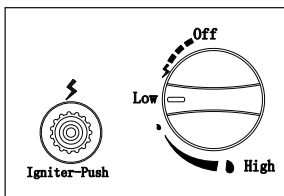

Figure 2
4. Press the control knob, turn counterclockwise to the "High" position, Continue to hold. press the control knob for 30 seconds. When the burner lights, release the control knob (Figure 2).